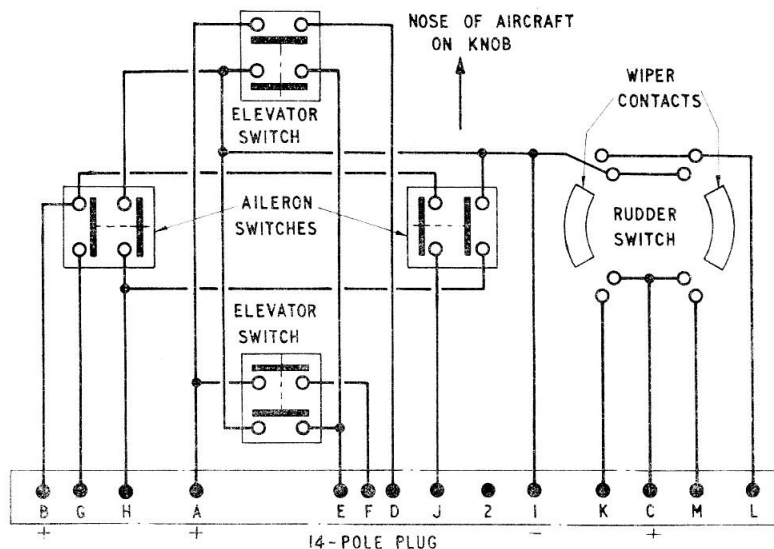

Fig. 3. Internal wiring diagram
6. The internal wiring of the switch is brought out to a waterproof, 14-pole plug, Type C (Ref. No. 5X/6091), on the end of the switch. A wiring diagram (fig. 3) illustrates the connections to the micro switches, rotary switch and plug.